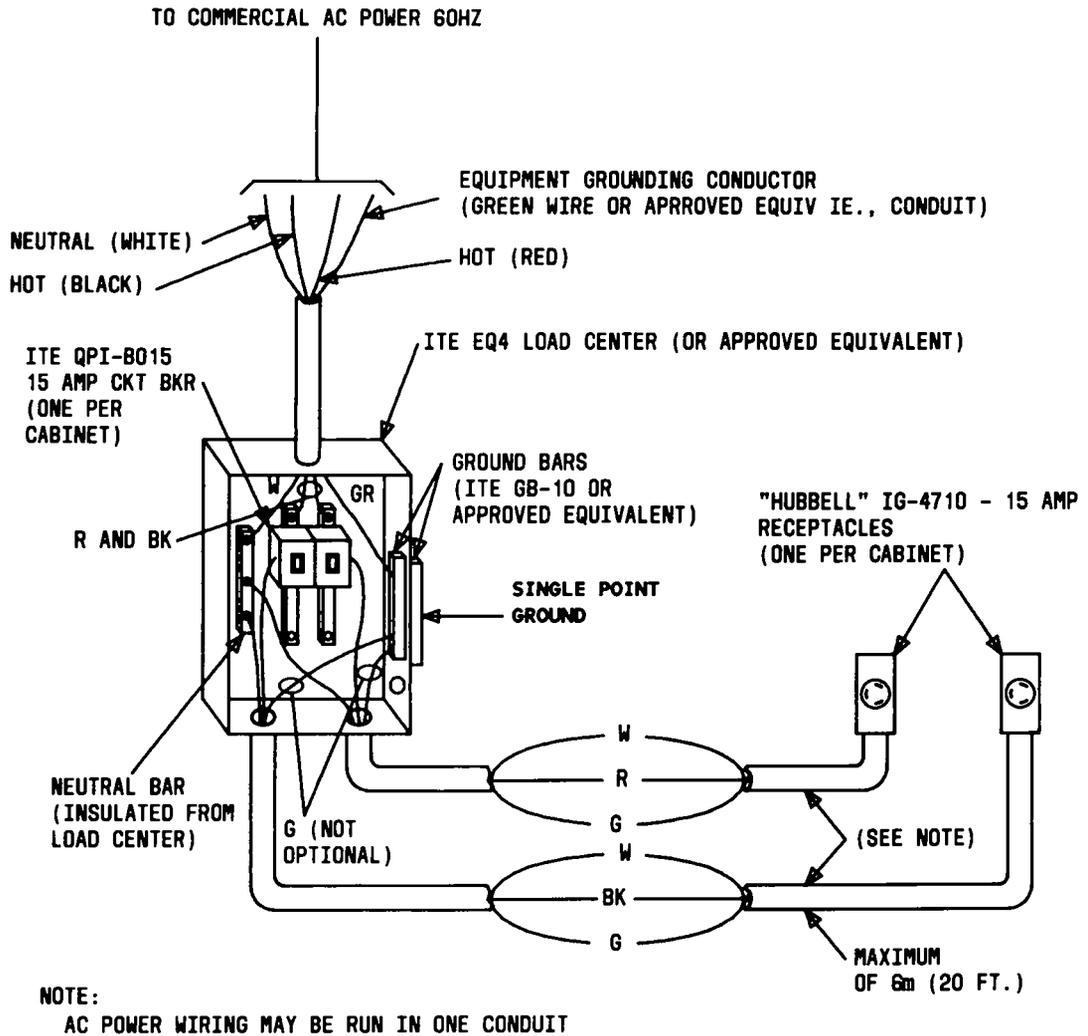

Fig. 5—Load Center and Receptacles for DIMENSION PRELUDE PBXs
3.04 The ac distribution required for a 2-cabinet DIMENSION PRELUDE PBX system is shown in Fig. 5. The installers must arrange with the customer or an electrical contractor for the installation and wiring of an approved load center equipped
receptacle. Sufficient number of circuit breakers and receptacles shall be provided to accommodate all cabinets. (See Fig. 5.)